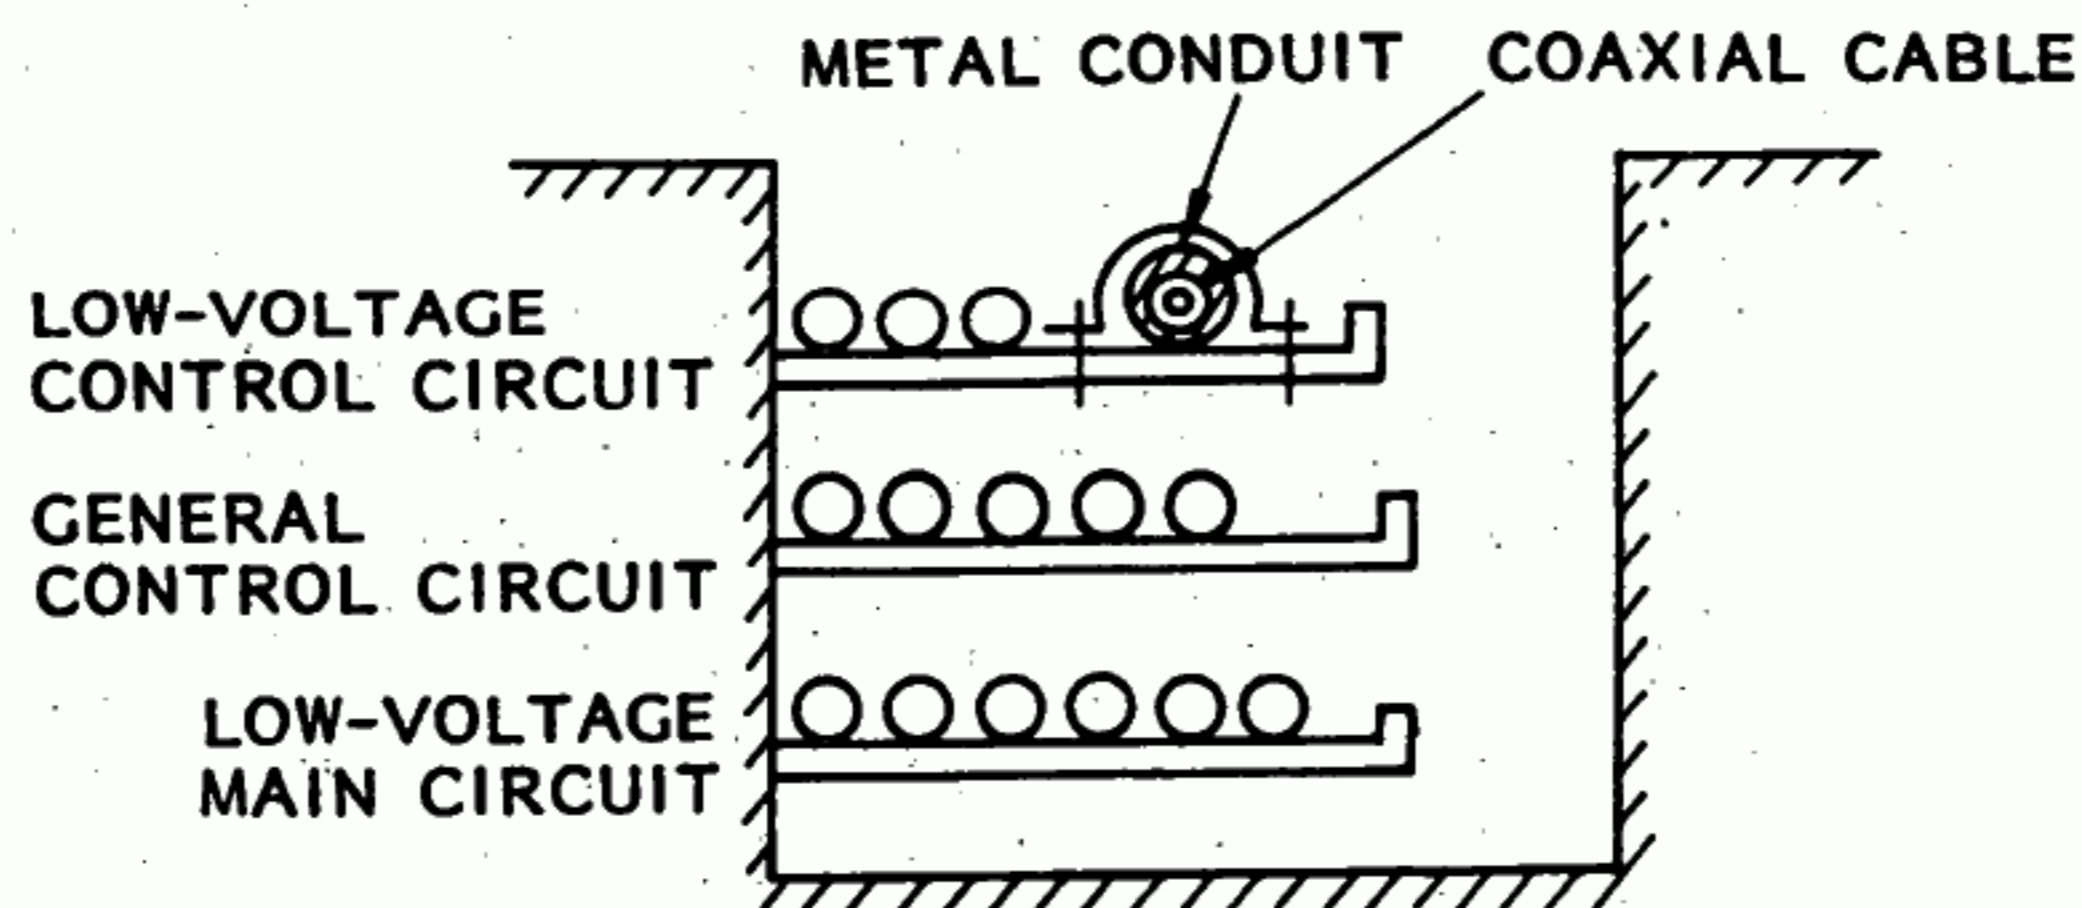

Fig. 7.10 Separating Trays (Classes 5C-FB and 7C-FB)
- (c) When a class 5C-FB or 7C-FB coaxial cable is housed in the same pit used for general control circuits and low-voltage main circuits, separate the trays (as shown in Fig. 7.10) as far as possible.